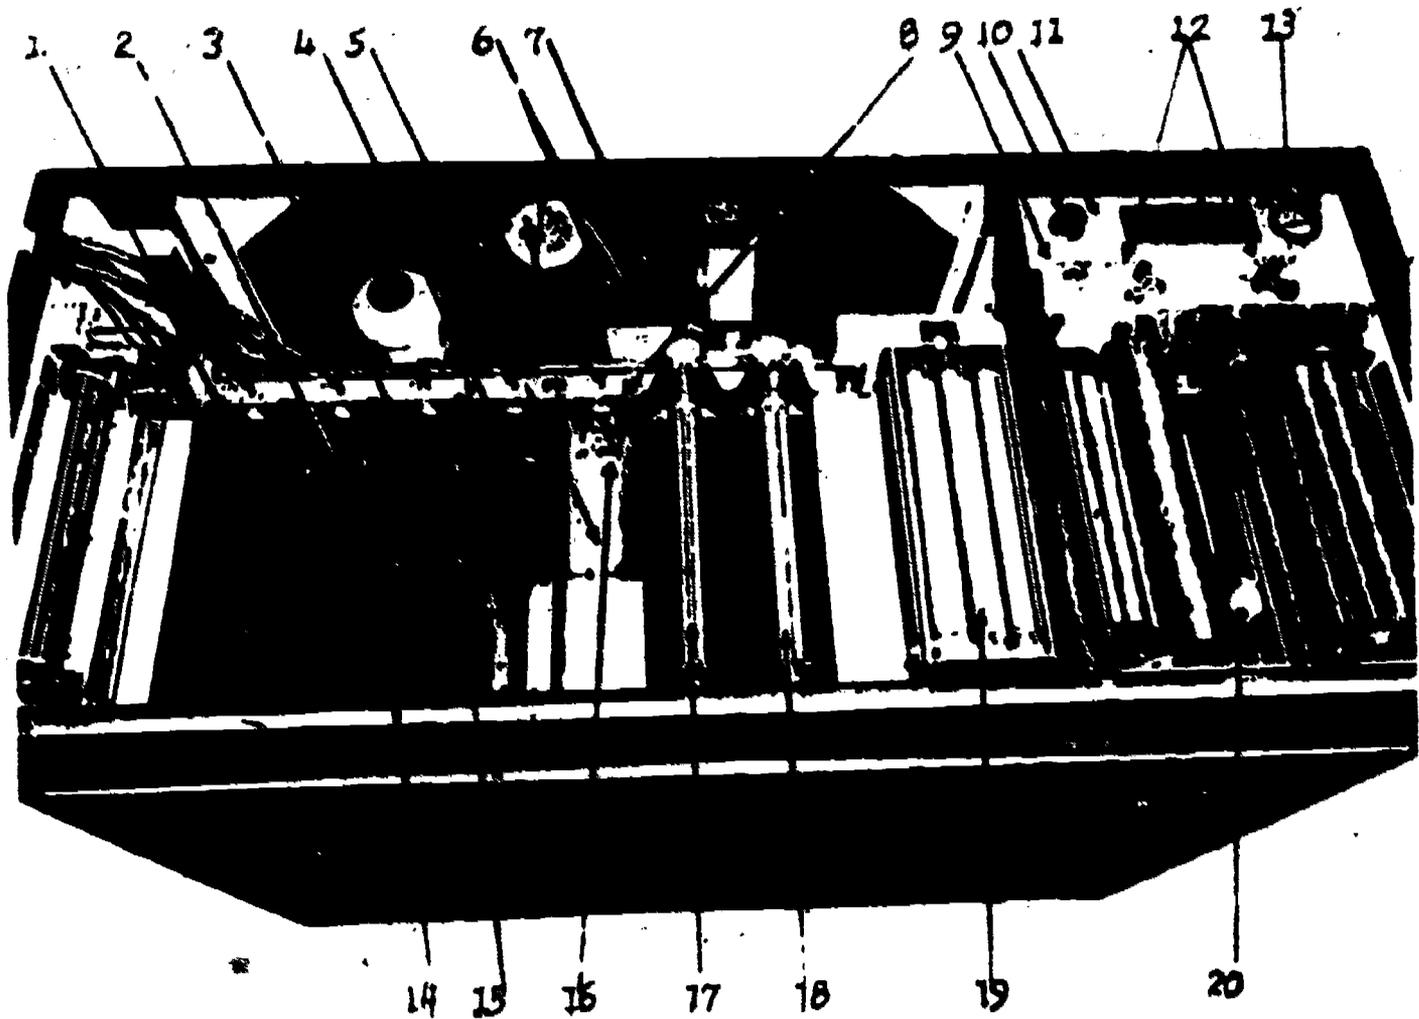

Figure 1-26. Parts of a Versamat
1. On a separate sheet of paper, identify the items listed as numbers 1 through 20 in Figure 1-26.